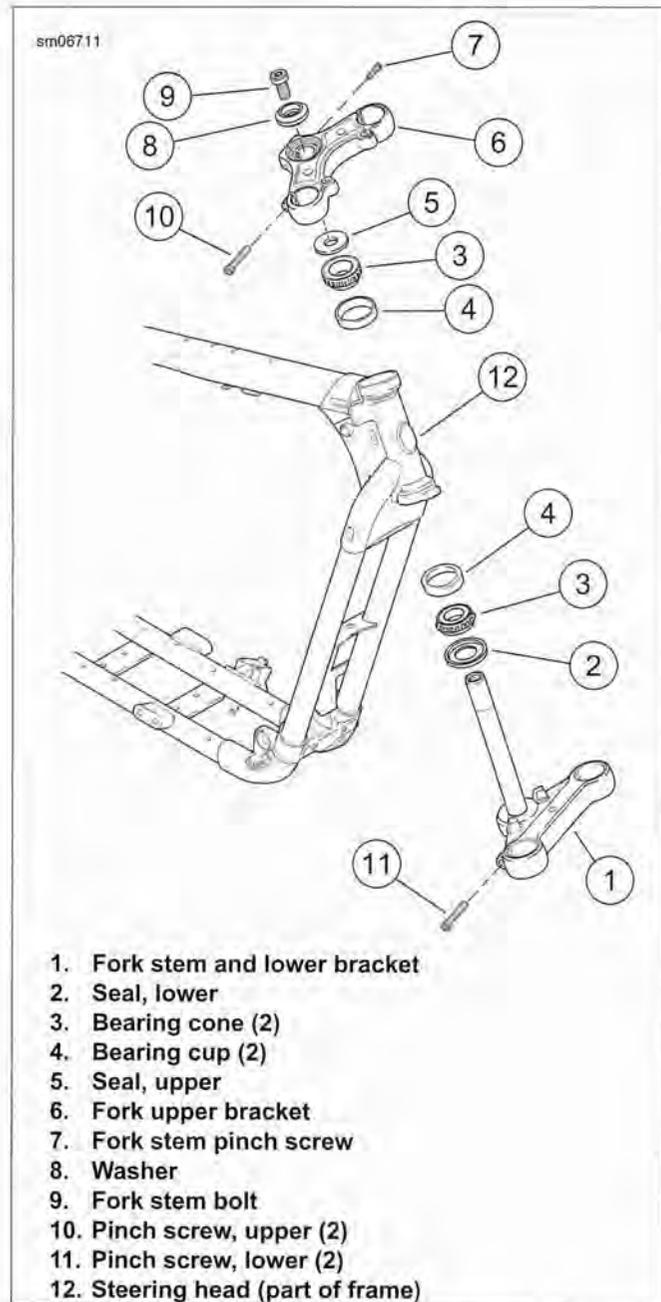

Figure 2-159. Fork Stem and Bracket Assembly: Typical
2. See Figure 2-159. Loosen fork stem pinch screw (7). Remove fork stem bolt (9) and washer (8).
3. Lift handlebar assembly from steering head with fork upper bracket (6) attached. Carefully position assembly out of the way. Exercise caution to avoid damaging control cables, wiring harnesses, clutch cable or brake lines.
1. See Figure 2-159. Clean the seals (2, 5), bearing cones (3), fork stem and lower bracket (1) and steering head (12) with solvent.
2. Inspect fork stem and lower bracket (1). Replace if damaged.
1. See Figure 2-159. If bearing cups (4) were removed, obtain **new** bearings and bearing cups. Install **new** bearing cups into frame steering head using STEERING HEAD BEARING RACE INSTALLATION TOOL (Part No. HD-39302).